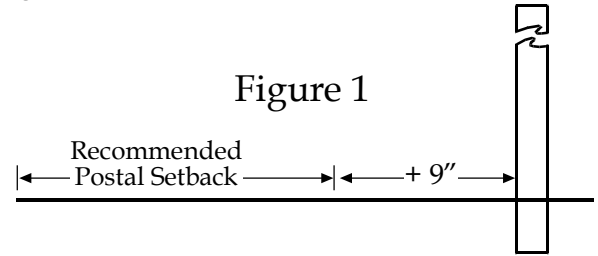

Figure 1
IMPORTANT! Before installing your Whitehall mailbox posts, consult your local branch of the US Post Office for road set back and height requirements from roadbed or curb. See Figure 1.
- 1) Consult your local post office for recommended road setback and height requirements. Add 9" and mark position on ground for front edge of post. (See Figure 1)